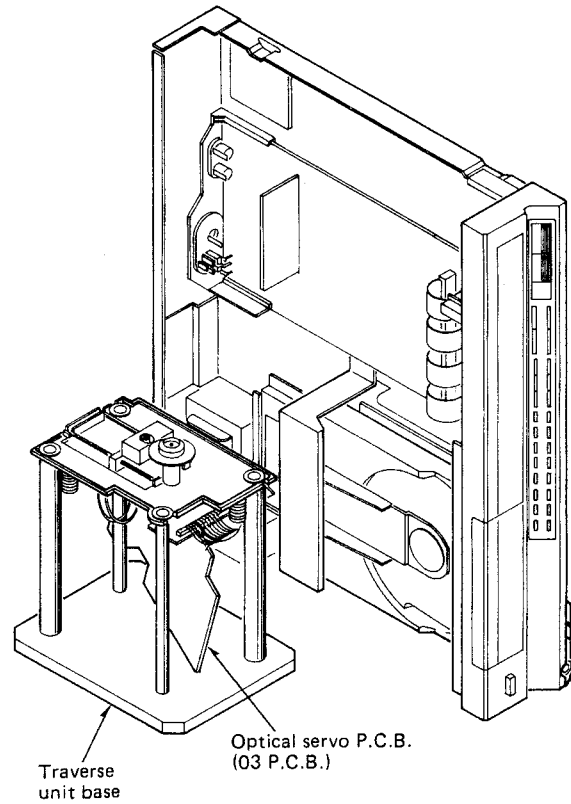

Fig. 33
10. Shift it as in Fig. 33 check.